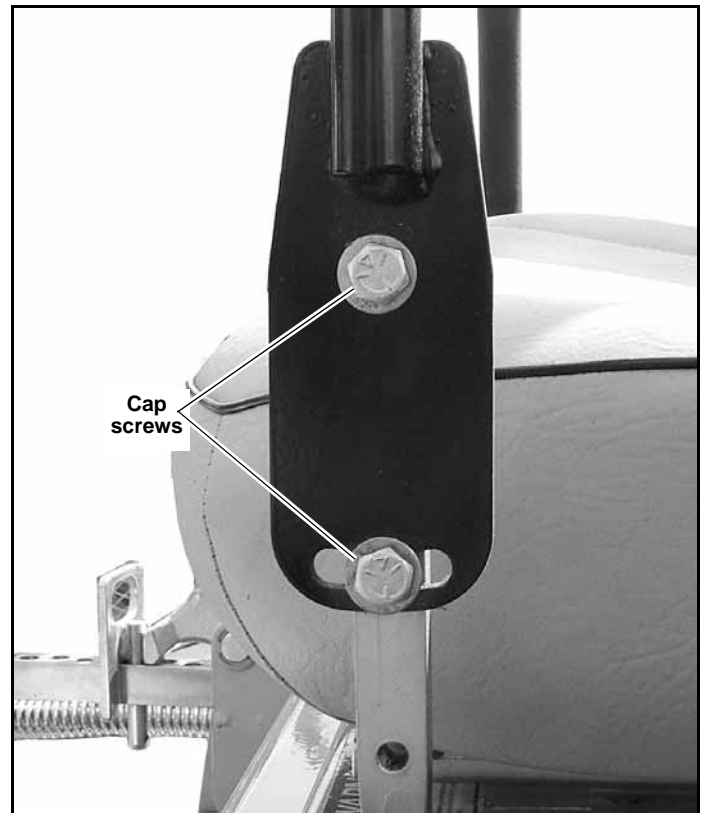

Figure 4-8
1. By loosening the cap screws that attach the upper control lever to the lower lever the upper control lever can be pivoted to fit the operator's personal preference (see Figure 4-8)